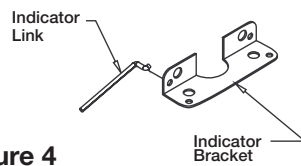

Figure 4
3. Fit indicator link into the blade bracket (**Figure 4**).
2. Fit indicator link into the blade bracket (**Figure 4**).
3. Mount opposite actuator on VCD and SMD series (control and smoke dampers). On FSD series (combination fire smoke dampers), use existing mounting bracket. Drill (2) 9/32 in. (7mm) holes in the frame. Fasten the bracket (Item 11) to the frame using thread studs and nuts. Skip this step if RRL exists.